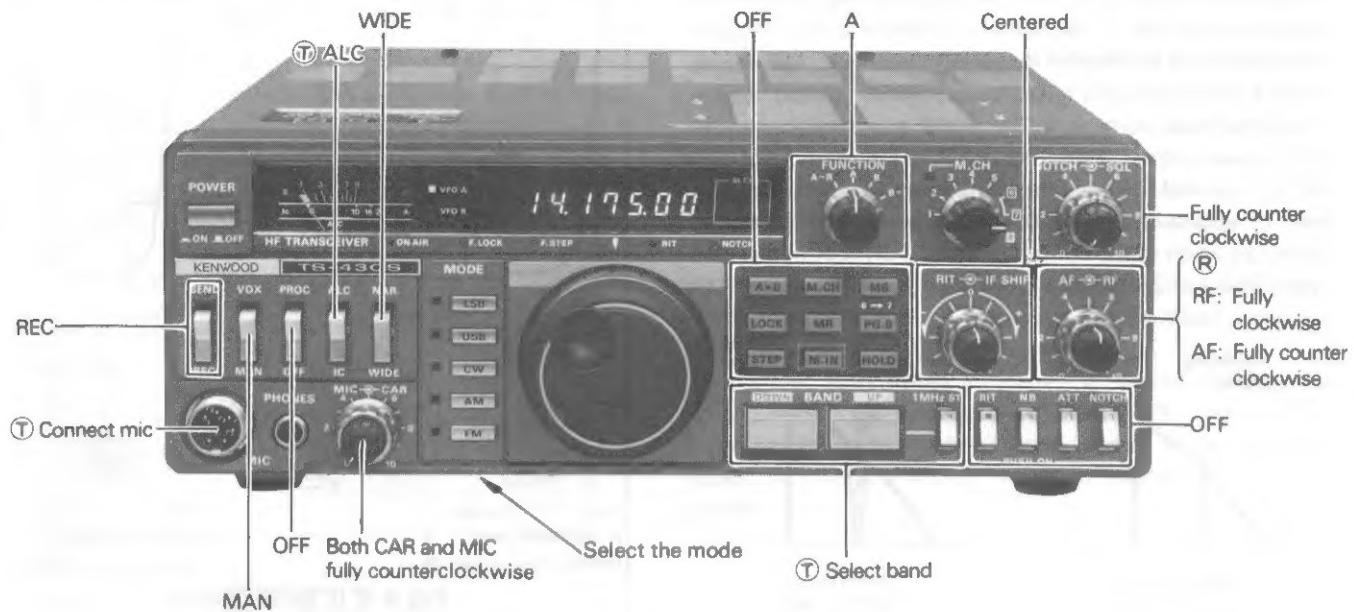

Fig. 5-1 Initial Control Settings
First connect the antenna, microphone and key. Then, set the controls and switches referring to Fig. 5-1.
- When testing the transmitter, use a 50-ohm dummy load, rated at greater than 100W (TS-430S). Refer to Fig. 5-1 for initial control settings. When the TS-430S is ready for transmission, use the following procedures: